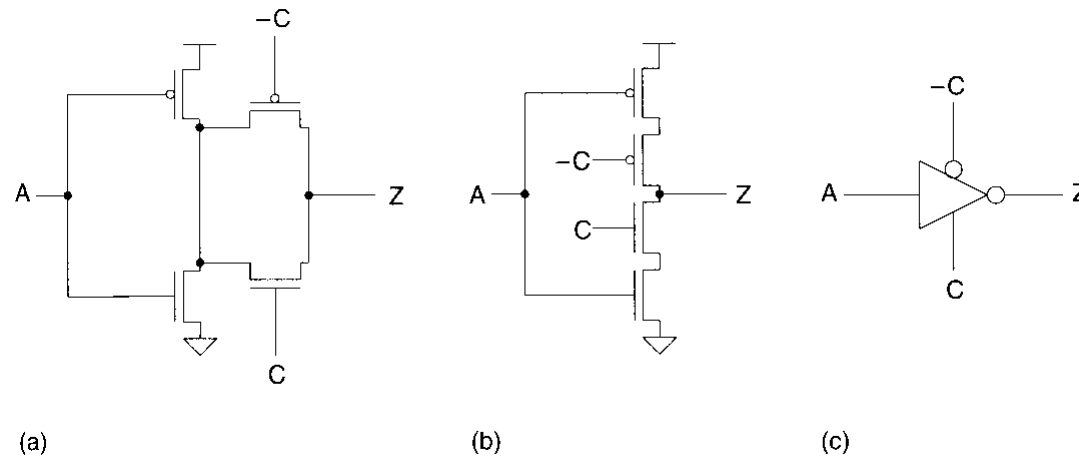

FIGURE 2.37 Tristate inverter
- A tristate inverter can be formed by cascading a transmission gate with an inverter as shown in Figure 2.37(a).
- The connection between the n- and p- driver transistor may be omitted as shown in Figure 2.37 (b) and the logic operation remains the same.